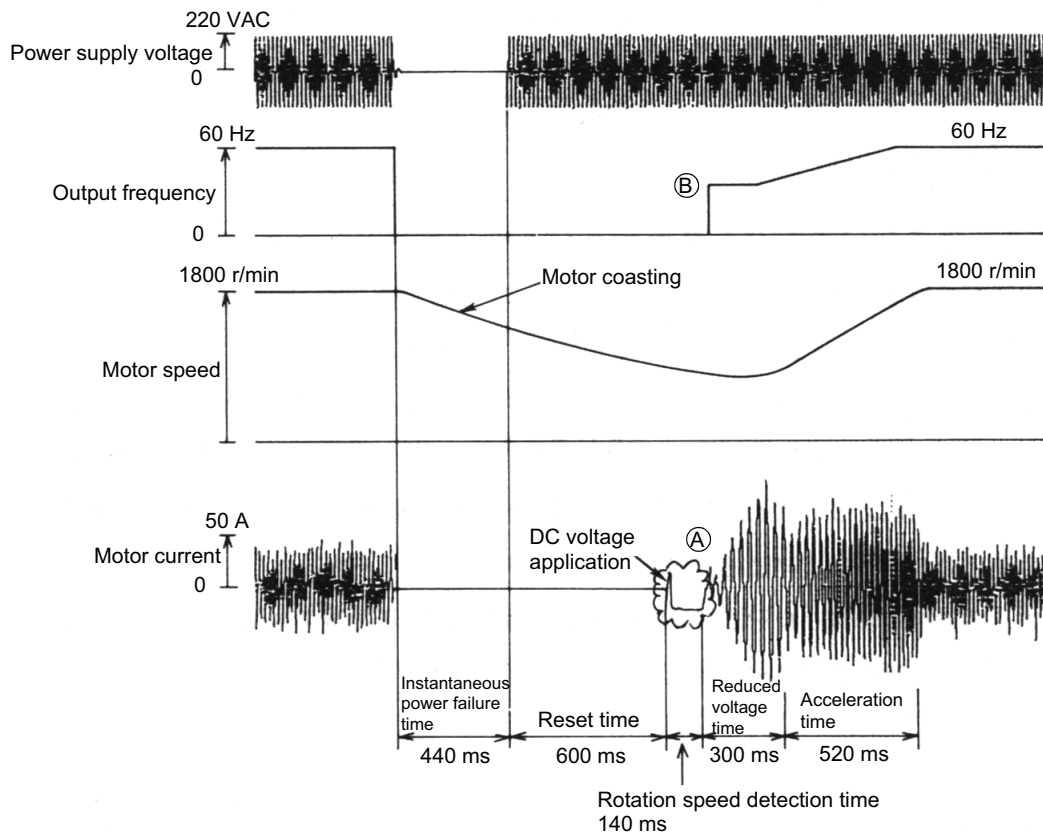

Fig. 7.9 Example of automatic restart after instantaneous power failure operation
- 2) After a power restoration, applying the DC voltage from the inverter to the coasting motor carries the DC to the motor. (Refer to Fig. 7.9 ① .)
- 4) The inverter outputs with the frequency according to the motor speed. (Refer to Fig. 7.9 ② .) After that, restart the inverter operation while increasing the output voltage gradually to reduce the starting current of the motor.